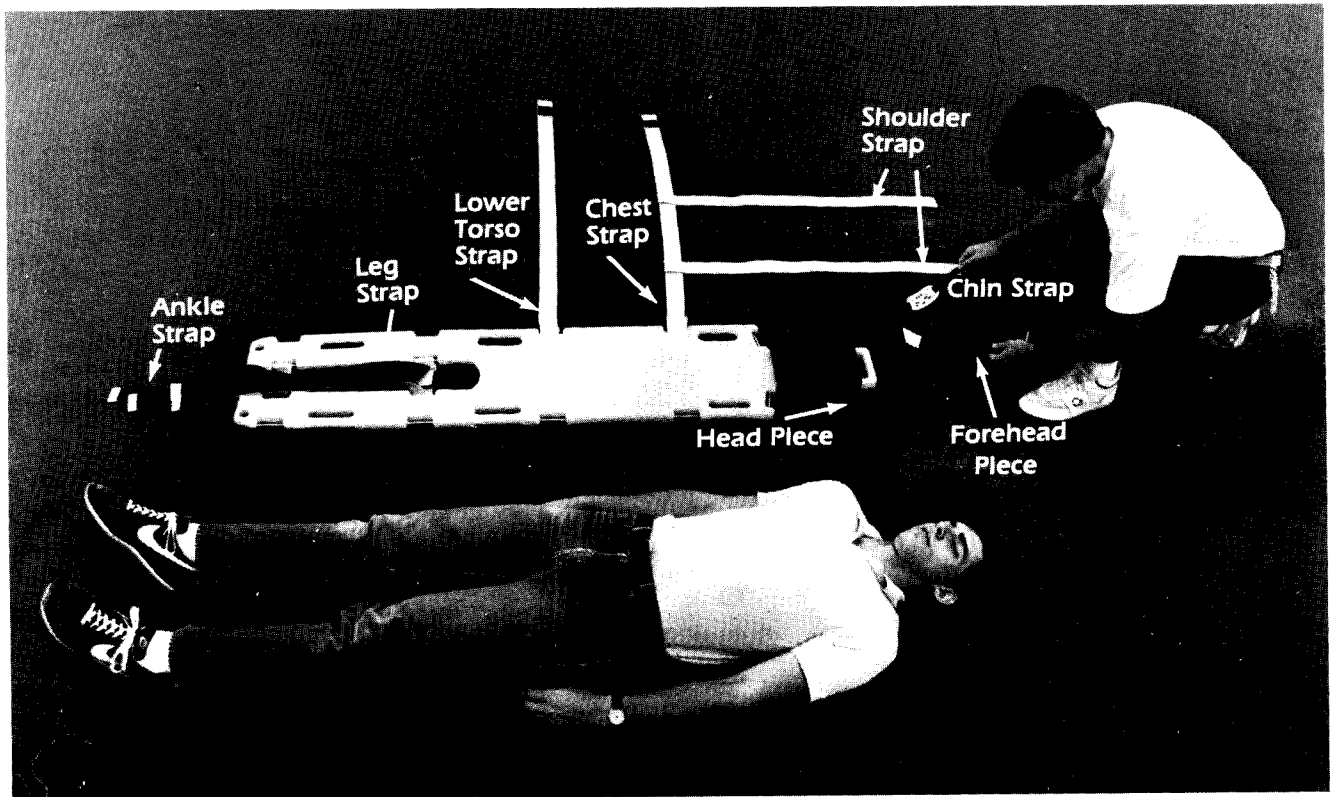

Figure 1.1
- 1.1 Position the body splint/litter next to the victim (Figure 1.1)